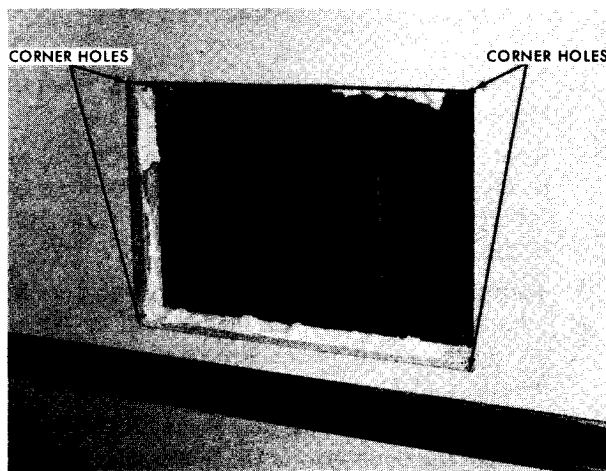

Figure 4
5. From the outside of the vehicle cut out the vent opening using the four corner holes to locate the opening. (See Figure 4)